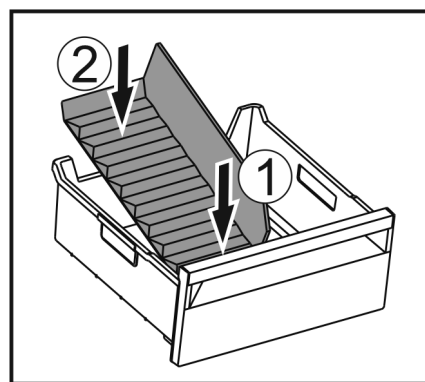

Fig. 75
- ▶ Insert the front part of the ice compartment divider. Fig. 75 (1)
- ▶ Lower the rear part of the ice compartment divider to the drawer bottom. Fig. 75 (2)